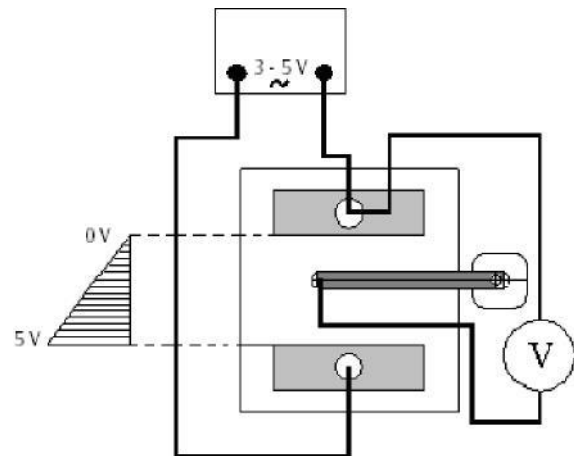

Fig. 1 Experiment set up
- Place the trough on a sheet of graph paper and set up the experiment as in Fig. 1.